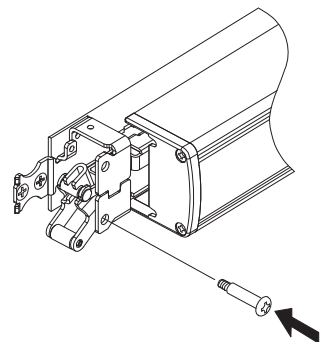

Figure 3
3. Reinstall axle and tighten securely (Figure 3).